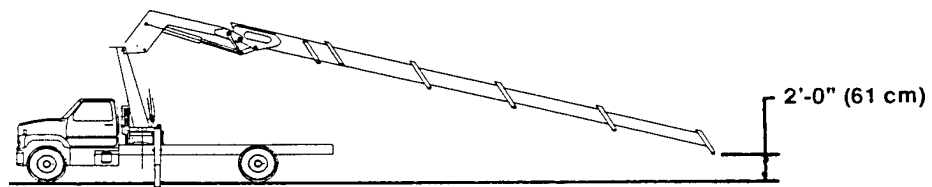

FIGURE 3. CRANE POSITION
2. Position the outer boom below horizontal with outer boom cylinder extended, so as to have the end of the last extension boom approximately 2 feet (61 cm) above the ground. See Figure 3.